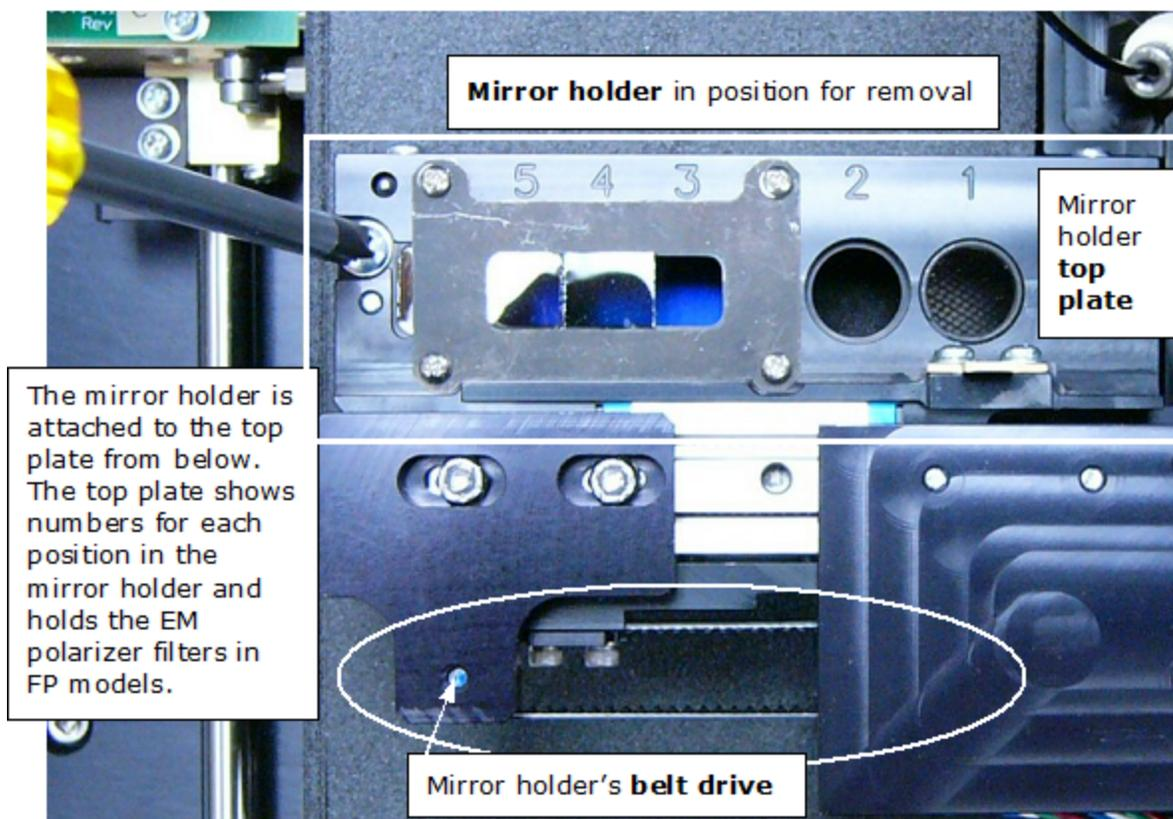

Figure 4-5: Mirror holder positioned for removal
Removing the mirror holder from the reader is required in either scenario. Before removing the holder, take a moment to identify the reader's components that are described in the following procedures; see Figure 4-5.
3. When the mirror holder is fully exposed, carefully remove the two screws and washers on top (see Figure 4-5), and set them aside. The holder will continue to be held in place by its magnetized frame.
2. Inside the reader, put the mirror holder underneath its top plate (see Figure 4-5). The holder's alignment pins will help guide it into place and because it is magnetized the holder will stay in place.